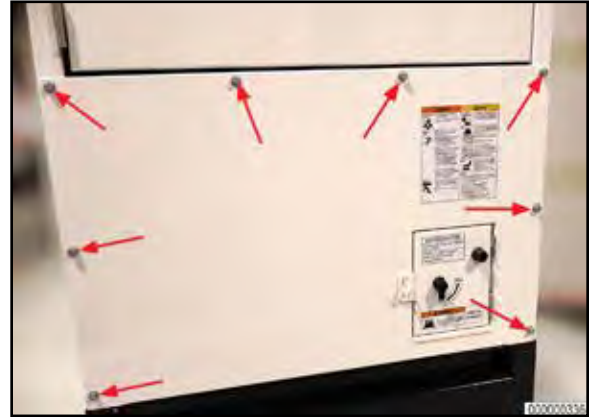

Figure 4
- **Step 6:** Using a 13mm socket and driver, remove eight (8) bolts securing the Front Enclosure Frame Lower Panel to the Front Enclosure Frame. (Figure 4)